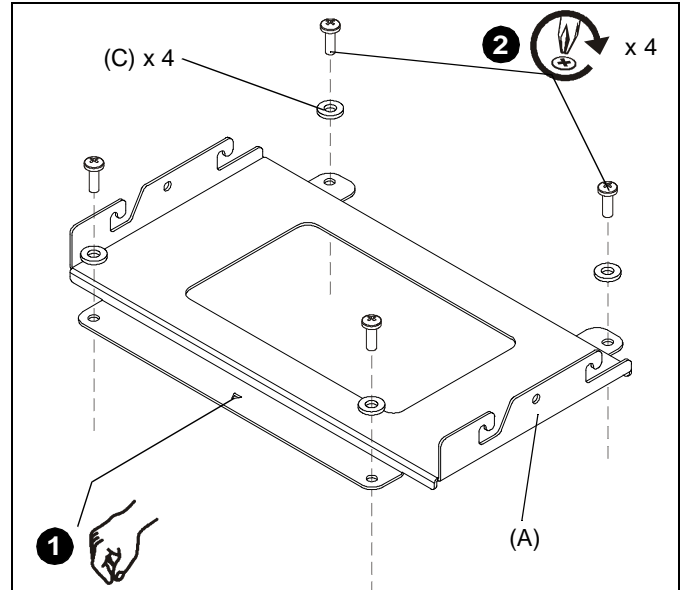

Figure 2
1. Lower custom HB bracket (A) onto top of projector. Ensure that triangle in bracket points toward front of projector. (See Figure 2)
2. Attach HB bracket (A) to projector using four M8 x 16mm Phillips pan head screws (E) and four M8 flat washers (C) through four holes in the HB bracket. (See Figure 2)